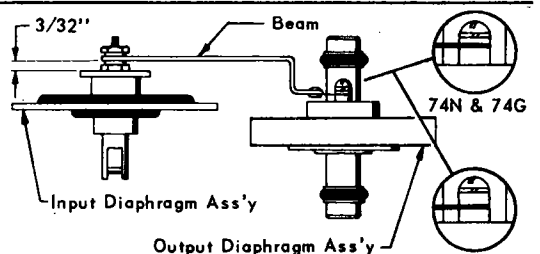

FIGURE 6 Diaphragm & Beam Ass'y
4. Install the beam after the input and output diaphragm assemblies have been installed and securely tightened. Thick and thin spacers for Models 74N and 74G must be installed as noted in Figure 6. Spacers for Models 74SN and 74SG are of equal thickness. Torque the two screws that hold the beam to the Output Diaphragm Assembly to 2.0-2.5 in. lbs. Set the height of the beam, per Figure 6, before locking the small jam nuts on the input diaphragm assembly.